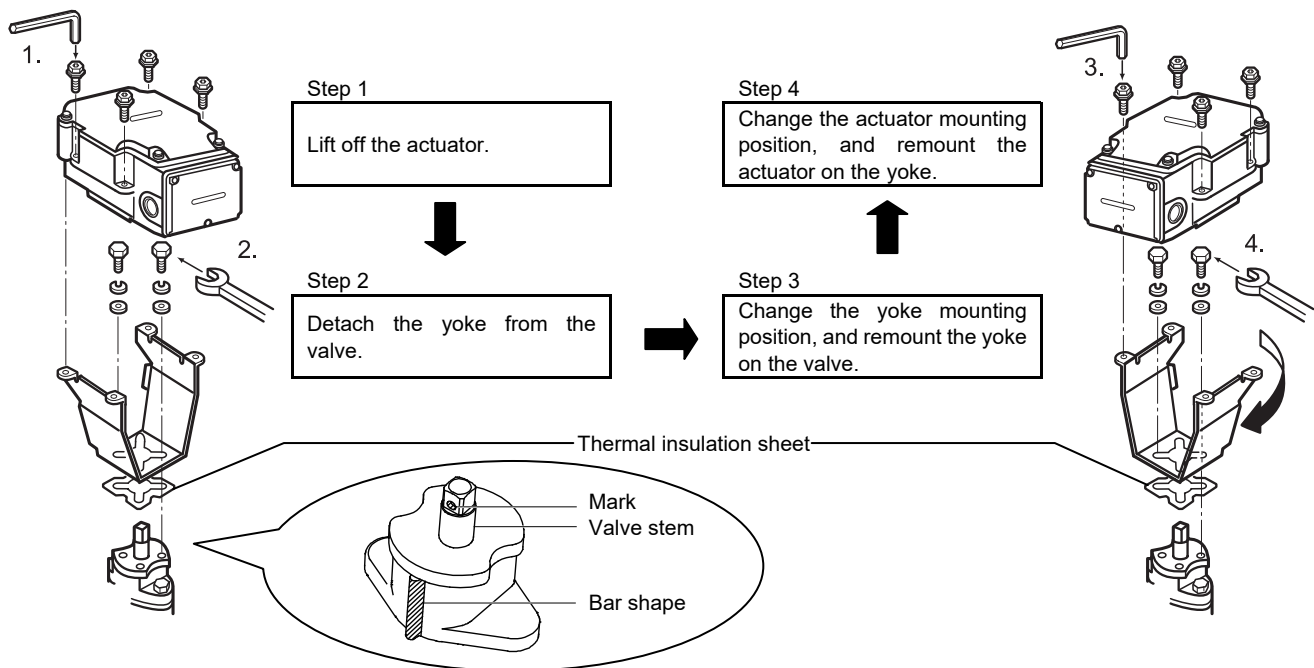

Figure 14. Changing the actuator mounting position
- 1) Remove the screws connecting the actuator and the yoke. Lift the actuator and detach it from the yoke. Make sure that the mark on the valve stem faces the same direction as the bar shape on the valve bonnet faces. <Step 1 in Fig. 14>
- 2) Remove the screws connecting the yoke and the valve. <Step 2 in Fig. 14>
- 5) Before fixing the yoke to the valve with the screws, check that the actuator engages correctly with the valve stem (at the new mounting position). Check that the pointer of the actuator indicates 100 % position as well. Then, fix the yoke to the valve. <Step 3 in Fig. 14>
- 6) Mount the actuator. Place the actuator, with its facing direction changed, on the yoke, and fix them with the screws. <Step 4 in Fig. 14>